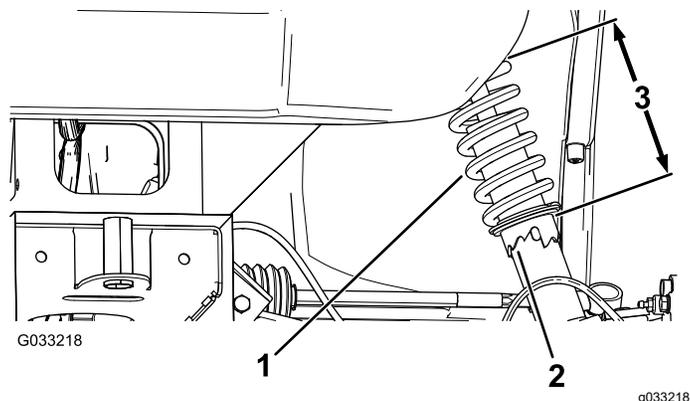

Figure 54
2. If the wheel camber is out of alignment, use the spanner wrench to rotate the collar on the shock absorber to align the wheel (Figure 54).